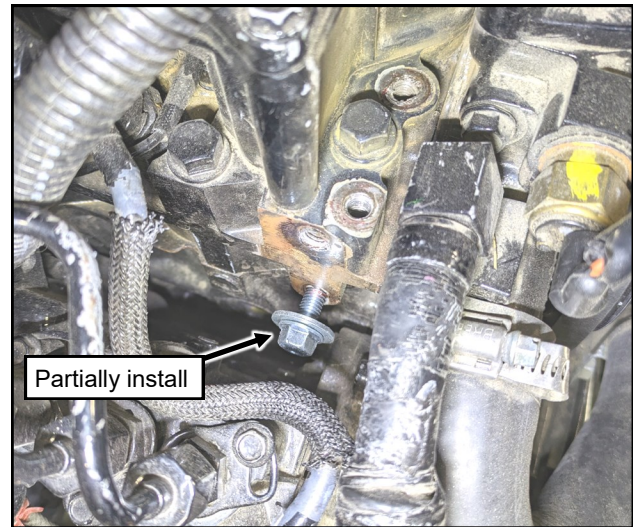

Fig. 1.35 (Partially thread in lower M8x25 screw)
**1.35** With a fender washer and supplied red Loctite, partially thread in an M8x1.25 x 25 hex screw into the lower hole shown in Figure 1.35. The screw and washer should be far enough out so the compressor bracket can slide on.